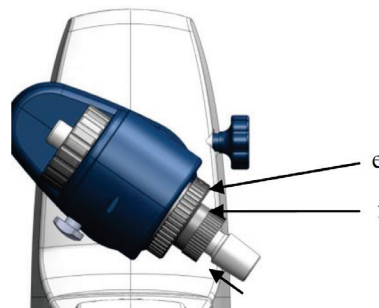

Figure 9
- Open the locking device on the drive head by turning it 60° counter clockwise (e), (Figure 9).
- The plastic screw nut (f) helps loosen tight-fitting piston ground-in connections (Figure 9).